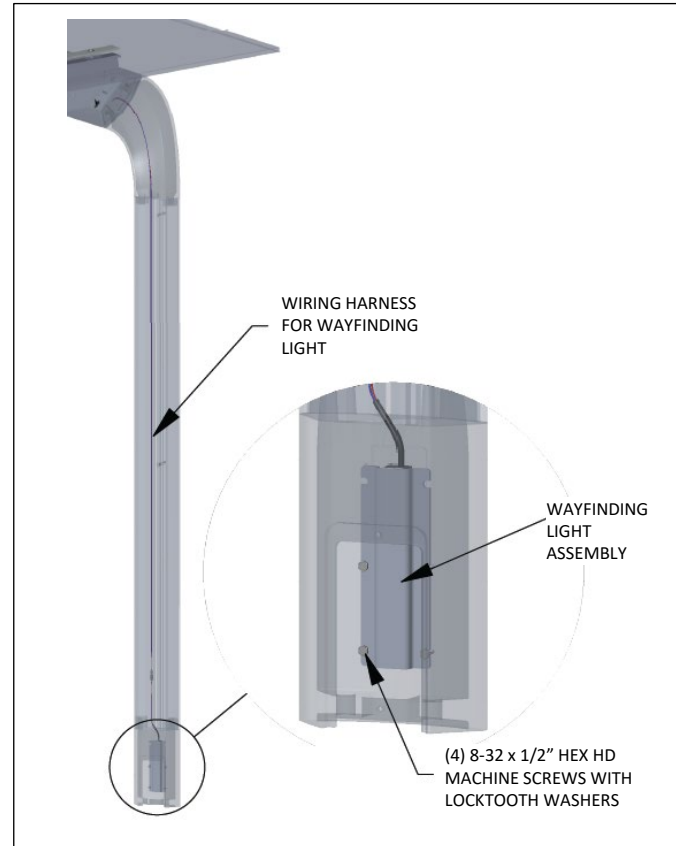
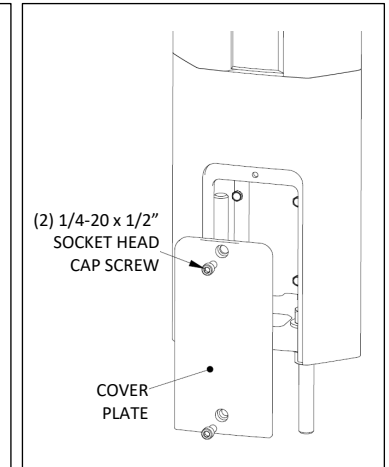

Fig. F11 – Install wayfinding lights
Fig. F12 – Install wayfinding light cover plate
8. Wayfinding lights: Run wiring harness up through front vertical post. On the front left side of the unit, remove the access cover on the front horizontal beam. Make connection from the wiring harness to the quick disconnect located in the beam. Secure LED to front vertical post, using (4) 8-32 x 1/2" hex head machine screws with external tooth lock washer, located in hardware pack #62810, see Fig. F11. Before final tightening of screws, ensure only the lens from the light is showing through the front opening. Repeat for opposite side. Install cover plates, using (2) 1/4-20 x 1/2" socket head cap screws, located in hardware pack #62607, see Fig. F12. Make connection to pre-installed wiring harness labeled "wayfinding light".